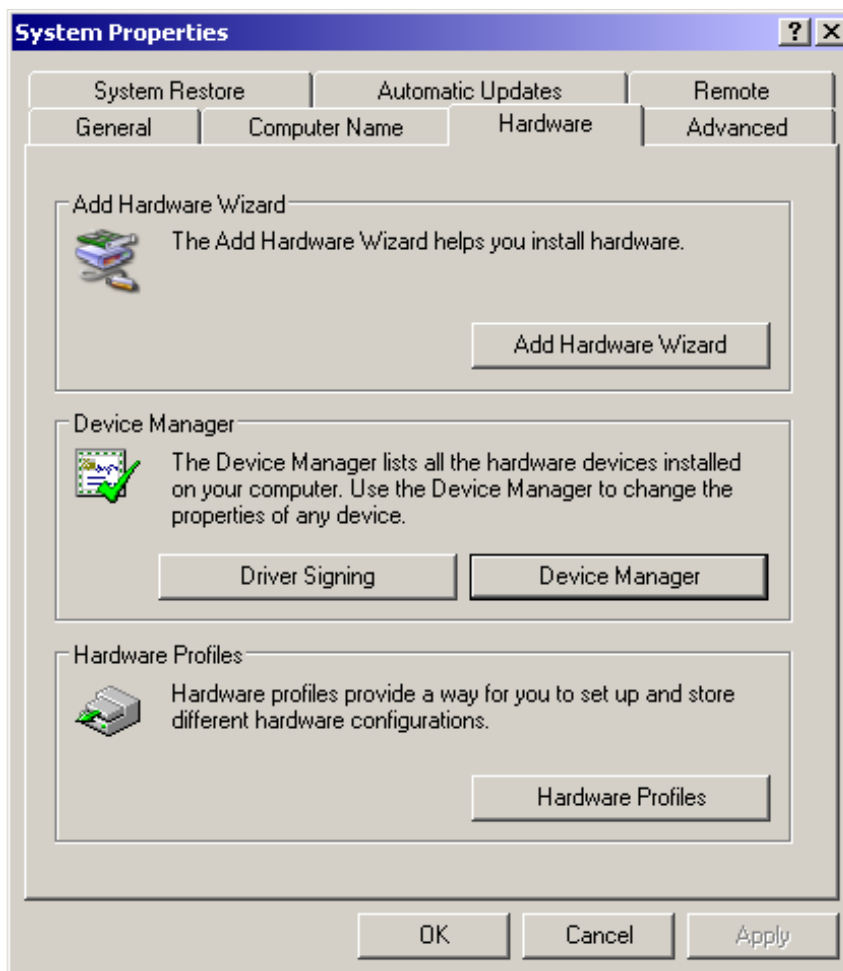

FIGURE 179. System Properties
4. Click on the Device Manager button as displayed in Figure 179.